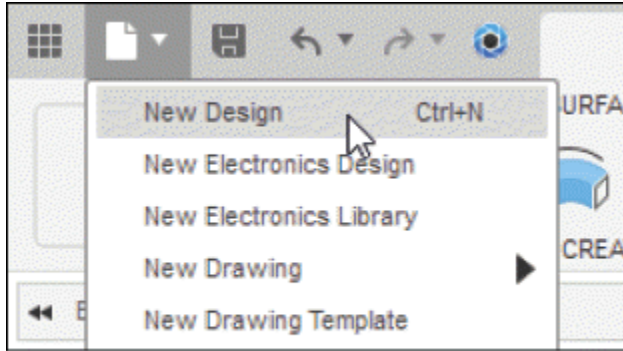

Figure-105. New Design tool
- Select the **New Design** tool from **File** menu to start a new design; refer to Figure-105.